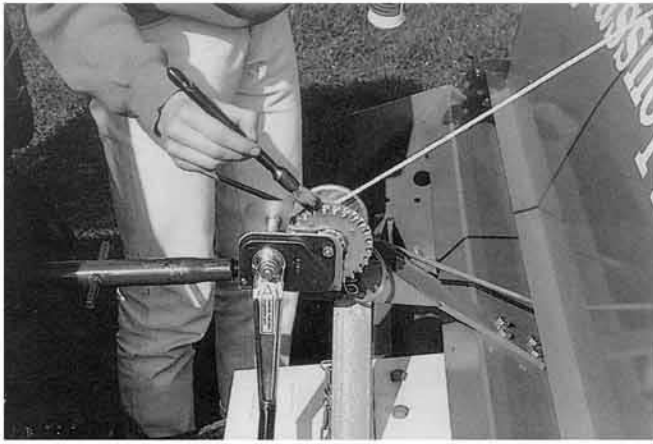

fig. 25
- Gear-wheel of the crank handle when the tray is emptied mechanically (Fig. 25).